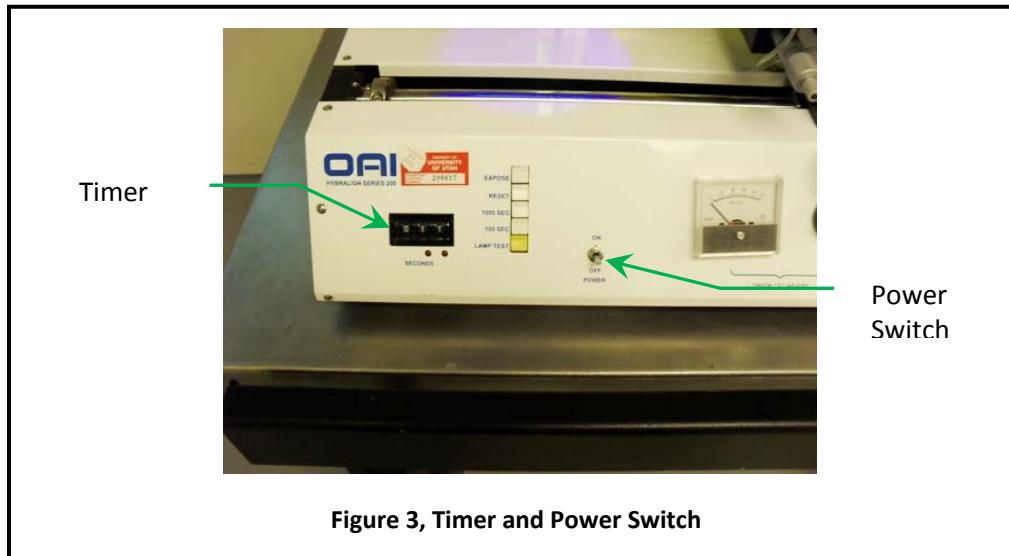

Figure 3, Timer and Power Switch
6.2.1 Turn on the toggle switch labeled Power. See *Figure 3, Timer and Power Switch*.
- 7.4.1 Check or set the desired exposure time (in seconds) on the left of the front panel of the aligner. Shipley 1813 photoresist will require 7-10 seconds depending on the intensity of the lamp. See *Figure 3, Timer and Power Switch*.